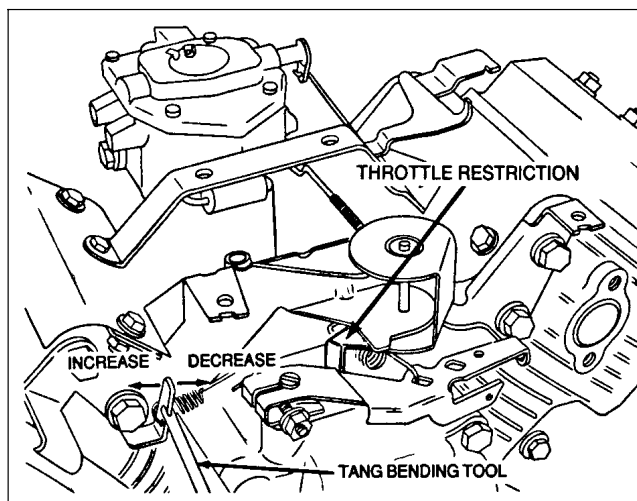

Figure 5
Carburetor and Speed Control Adjustment (Fig. 5, 6)
1. Start engine and let it run at half throttle for approximately five (5) minutes to warm up.
5. With governor control lever in governed idle position (no tension on high speed spring) bend governed idle spring anchor tang to get a governed idle speed of $1400 \pm$ RPM (Fig. 5).